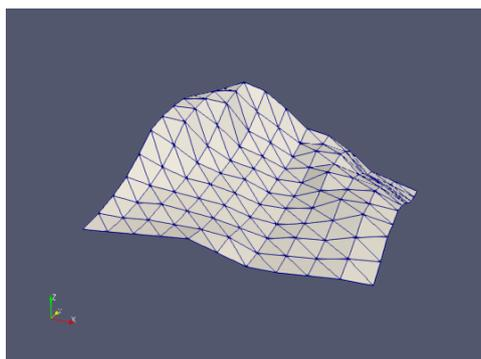
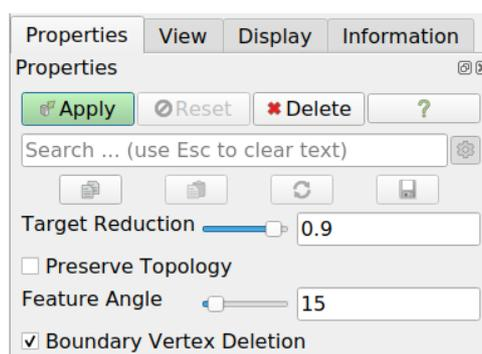
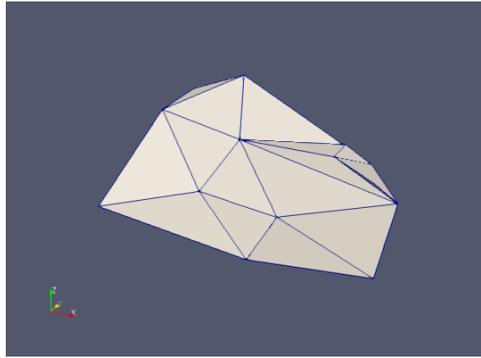

Fig. 1.49: A triangulated surface generated from input points using the *Delaunay 2D* filter.
Fig. 1.50: The **Properties** panel of the *Decimate* filter allow to finetune the resulting output triangulation.
Fig. 1.51: The surface shown in Fig. 1.49 after application of the *Decimate* filter with default properties.
After pressing *Apply*, a surface will appear as shown in Fig. 1.49.
The **Decimate** filter (to be found at *Filters* → *Geometry*) allows to reduce the number of triangles in a triangulated surface in an intelligent way, preserving morphologic features as much as possible within the limits of the selected parameters, see Fig. 1.50.
**Example:** The result of reducing the surface shown in Fig. 1.49 with the *Decimate* filter default properties as shown in Fig. 1.50 will produce a result as shown in Fig. 1.51. Visually, a much less radical reduction with *Target Reduction* of only **0.3** and a *Feature Angle* of **10** seems to generate a better result, as shown in Fig. 1.52.
Fig. 1.52: The surface shown in Fig. 1.49 after application of the *Decimate* filter with a much more optimum set of properties (*Target Reduction* = 0.3, *Feature Angle* = 10).